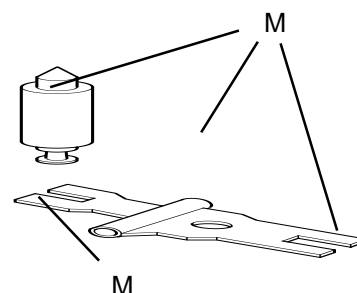

Fig. 11
See fig. 11 and 12 and check the following:
3. The needle valves and lever are not worn at M in fig. 11.